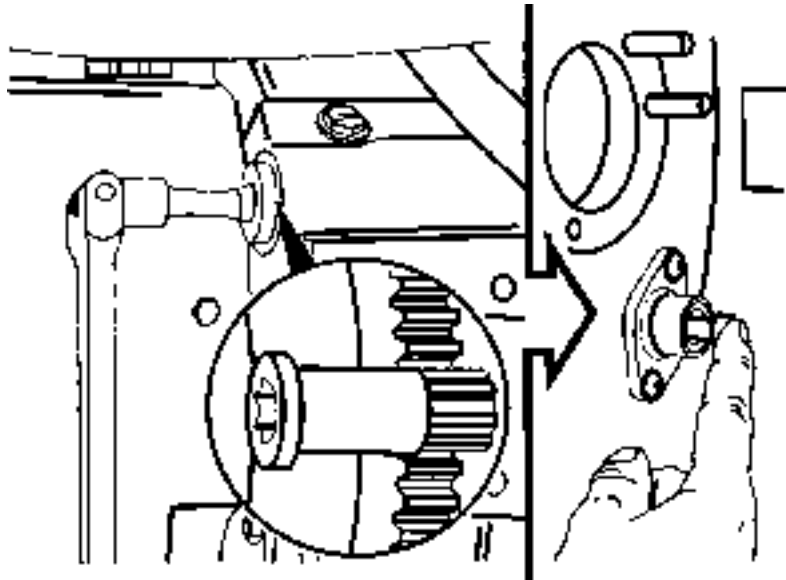

Fig. 5.17. Positioning a Cylinder Piston in TDC
4. Position the first cylinder piston in the top dead center (TDC) by turning the pinion on the rack (No 3824591) by hand and simultaneously pressing a timing pin (Fig. 5.17). When the pin slides into the camshaft hole, the cylinder piston has reached the top dead center (TDC).